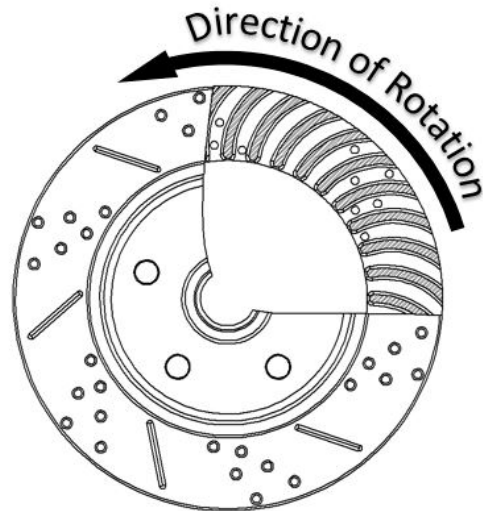

Figure 5 – Direction of Rotor Rotation
8. Slide the rotor onto the spindle. The inner wheel bearing and grease seal should be installed at this point. With the rotor fully pushed onto the spindle, install the outer wheel bearing followed by the keyed washer and the spindle nut. When tightening the spindle nut, tighten to 5-10 ft/lbs. Loosen the nut and tighten again using the same 5-10 ft/lbs. Do this a couple of times spinning the rotor to fully seat the wheel bearings onto the spindle. Loosen the nut a final time and re-tighten to move all play. Tighten approximately an additional 1/16th of a turn to give the appropriate pre-load and line up the cotter pin hole. Install the spindle nut retainer and the cotter pin to secure followed by the grease cap. **NOTE:** The brake rotors are directionally vented regardless of plain or slotted and cross-drilled and therefore must be installed on the appropriate side. The rotors are marked "L" for driver side and "R" for passenger side. Refer to Figures 5 and 6 below for reference.